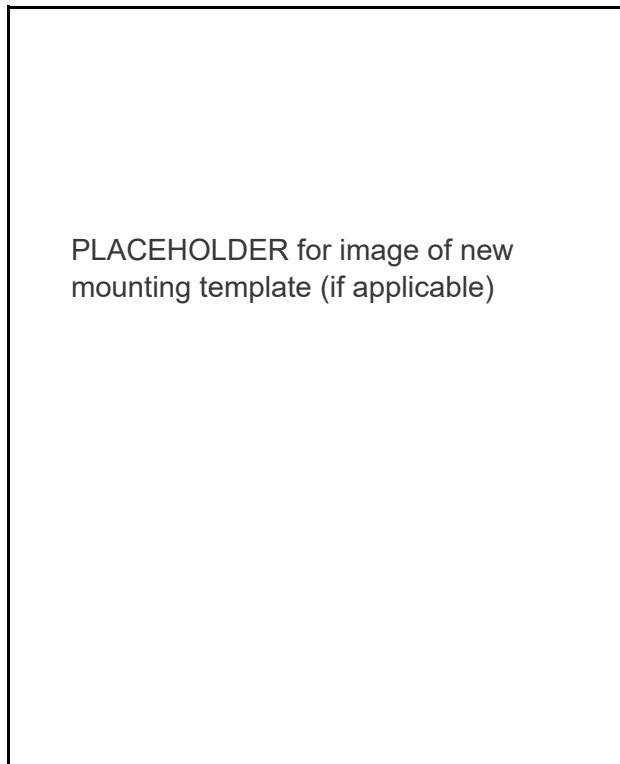

Figure 4-8 Wall mounting template for CS19-BBU-005 battery cabinet
1. As discussed in Placement of the BDA on page 4-9, determine the Battery Cabinet location in proximity to the BDA. Make sure spacing between cabinets is adequate for all connections and clearances. Ensure there is sufficient room and unobstructed access to the front panel, and the cabinet height accommodates battery handling and installation. Westell offers printable wall mounting template shown in Figure 4-8 to assist installers mounting the CS19-BBU-005 battery cabinet.